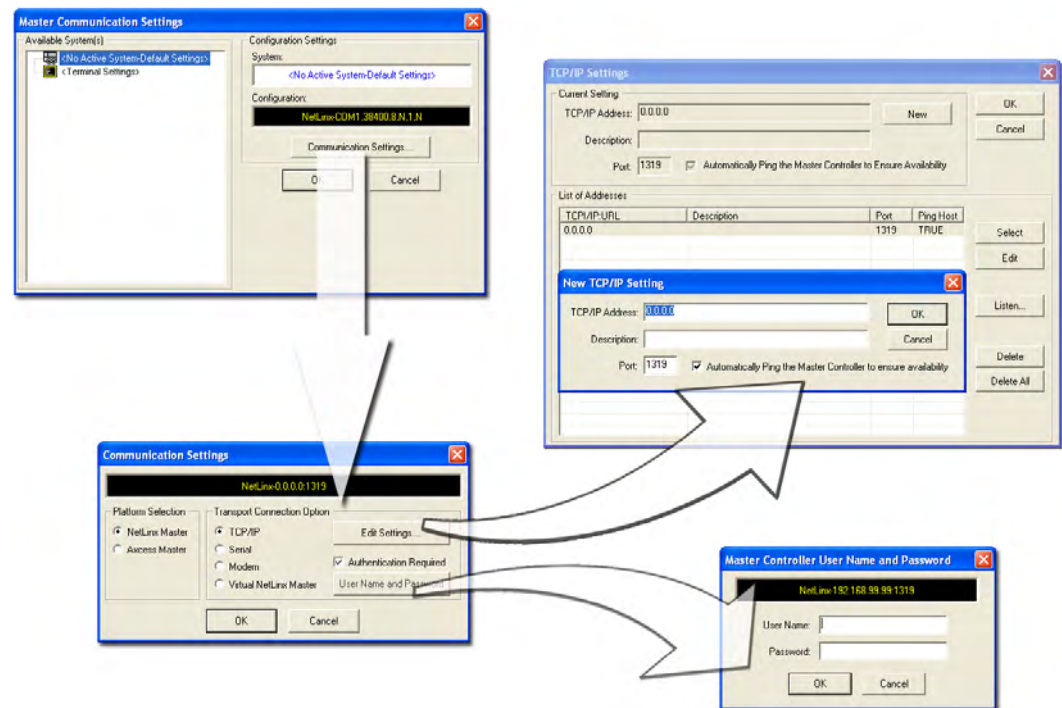

FIG. 50 Assigning Master Communication Settings and TCP/IP Settings
3. Select **Settings > Master Communication Settings** from the Main menu to open the Master Communication Settings dialog (FIG. 50).
7. Click the **Edit Settings** button (*on the Communications Settings dialog*) to open the TCP/IP Settings dialog (FIG. 50). This dialog contains a series of previously entered IP Address/URLs and their associated names, all of which are stored within Studio and are user-editable.